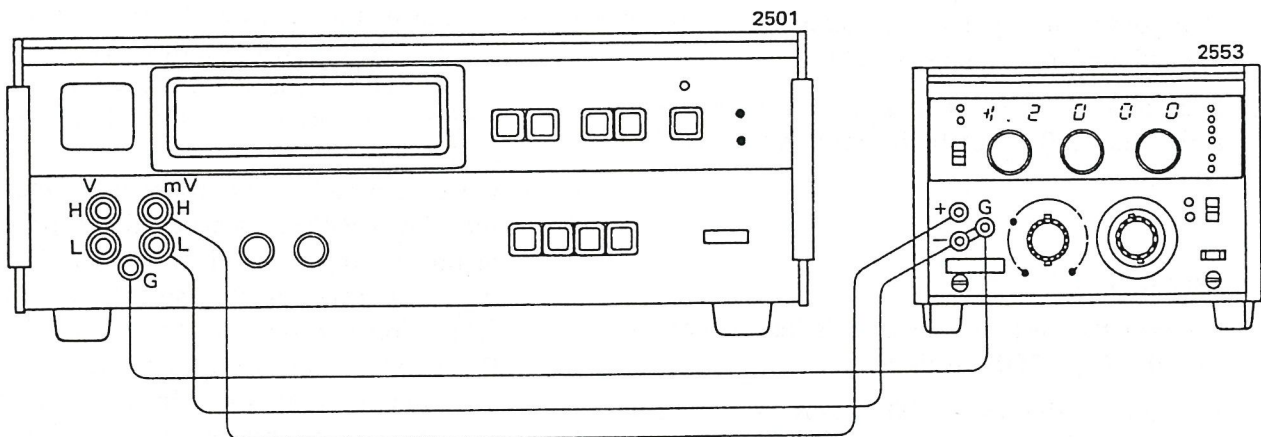

Figure 5-4. Setup for Calibration of Temperature Setting – mV Generating Ranges.
- Connect this instrument and Type 2501 as shown in Figure 5-4, and proceed to a calibration in the same procedure as for a voltage range.